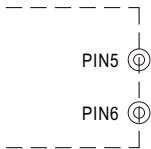

Fig. 4.2 Remove the CN1
- (2)Remove the shorting connector on CN1 that is shown in Fig 4.2, the Overload Protection Type will be "continuous constant current limiting".